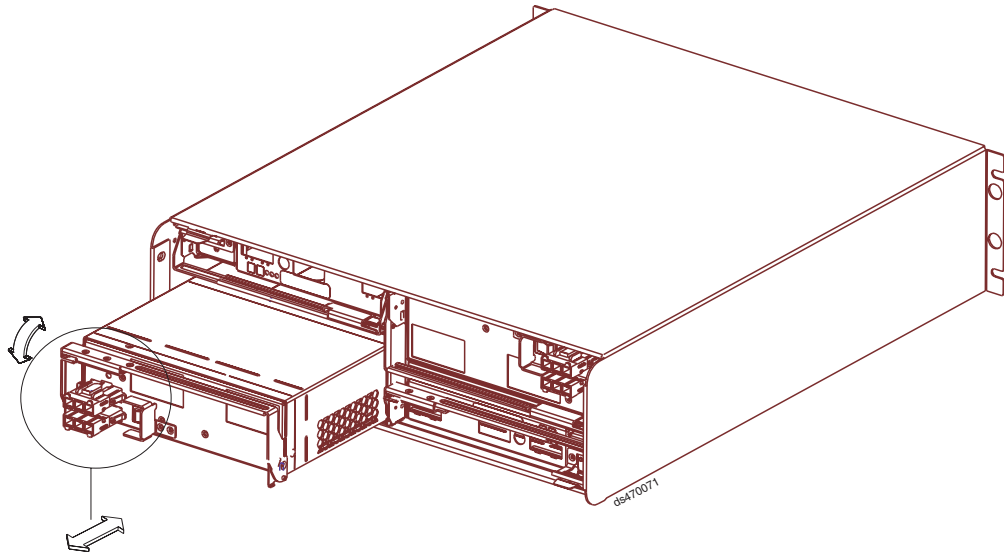

Figure 29. Replacing a dc power supply and fan unit
1. Slide one dc power supply and fan unit into the storage subsystem. Be sure to replace the dc power supply and fan unit so that the lever on each dc power supply and fan unit opens toward the interior of the storage subsystem, as shown in Figure 29. Do not force fit. The dc power supply and fan unit is designed to prevent it from being inserted into the chassis incorrectly.
**Attention:** Be sure that the lever is pulled straight out as you slide the dc power supply and fan unit into the storage subsystem, as shown in Figure 29. The left and right dc power supplies are seated in the DS4700 Express chassis in opposite orientations. If you cannot fully insert the dc power supply and fan unit into the dc power supply and fan unit bay, flip it 180° and reinsert it.